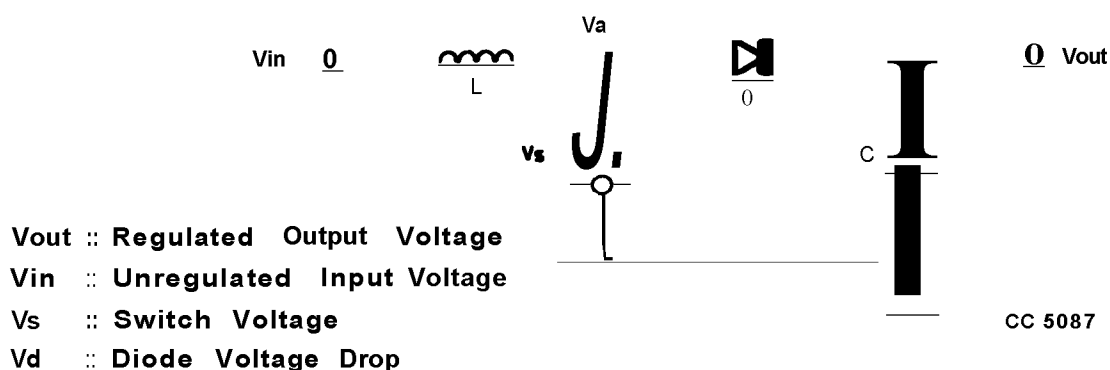

Fig. 6 Step-up voltage regulator
38. The theory of the switching step-up regulator is as follows (refer to Fig. 6): when the switch closes, the applied voltage (V_a) drops to almost zero ($V_a - V_s$), and the voltage $V_{in} - V_s$ is applied across the inductor, causing the inductor current to increase linearly. Because the applied voltage is less than the output voltage, the diode is reverse biased and current cannot flow to the output. Again, when the switch opens, the inductor current cannot change instantly, and the applied voltage changes to the total of the output voltage plus the diode voltage. At this time current can flow through the diode to the load capacitor, and the inductor current decreases at a linear rate, determined by $V_{out} - V_d - V_{in}$. Timing adjustments control the average diode current (I_d) so it is equal to the load current. If the load current is less than the maximum output current, off time is increased by a dead time with no current to the output. Input current can flow during both on and off times, so the average input current is always greater than the output current.